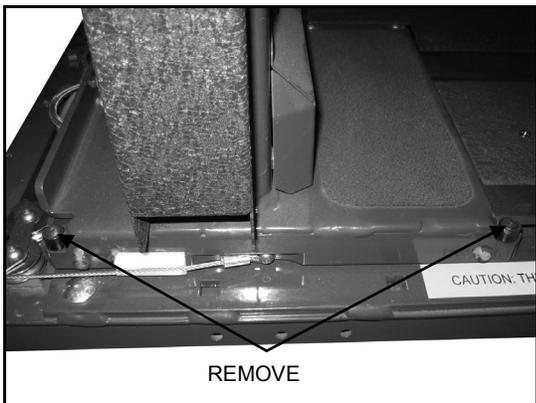

FIGURE 3-16
13. Refer to **Figures 3-16**. Remove the retaining screws for each roller replacement.